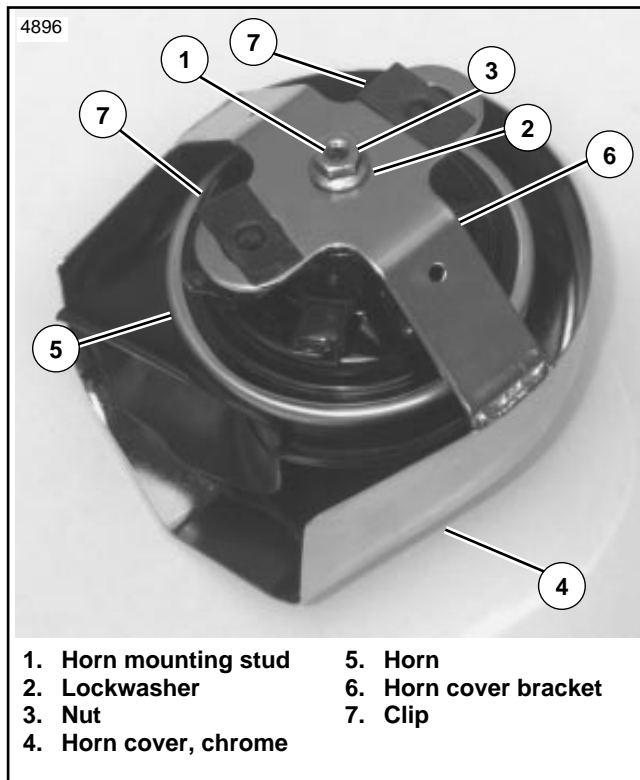
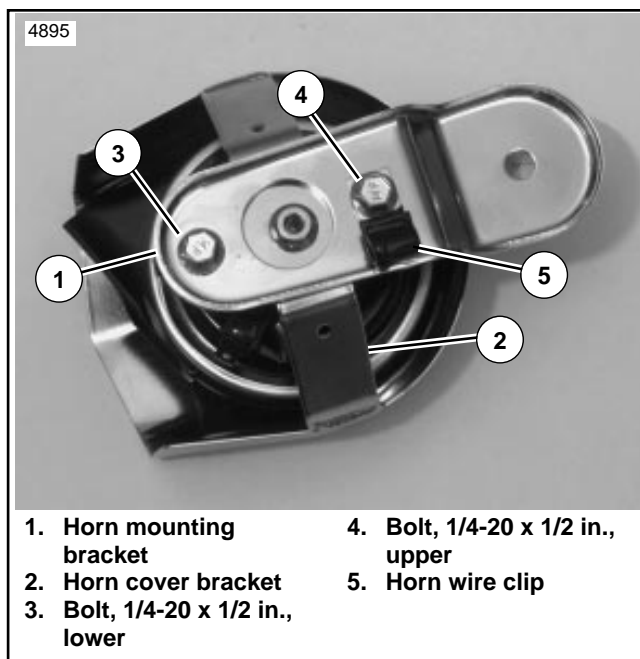

Figure 1. Horn Cover and Hardware - All Models
Figure 2. Horn Mounting Bracket Installation
1. See Figure 1. Remove nut from horn mounting stud (1). Assemble chrome horn cover (4) onto horn (5) using the *middle* hole in the horn cover bracket (6), as shown. Install lockwasher (2) supplied in kit onto the horn mounting stud (1). Apply 1-2 drops of Loctite 242 (blue) to the threads of the mounting nut (3). Tighten nut to 110 **in-lbs**.
2. Push clip nuts (7) into bracket holes on top and bottom of horn cover bracket (6).
3. See Figure 2. Place horn mounting bracket (1) over top and bottom holes in horn cover bracket (2). Install 1/4-20 x 1/2 in. bolt (3) from kit through lower hole in bracket. Insert remaining 1/4-20 x 1/2 in. bolt (4) through hole in horn wire clip (5) and secure bolt (4) to top hole in horn mounting bracket (1). Tighten bolts (3 and 4) to 5-8 **in-lbs**.